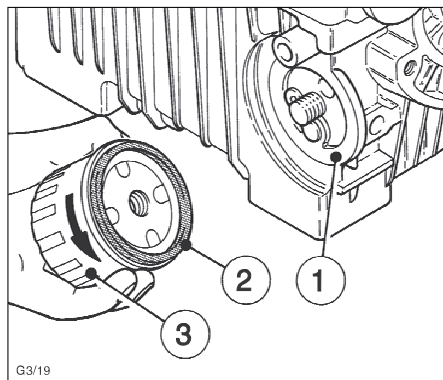

Fig. 20
- Add engine oil to the oil tank up to mark “6” and re-assemble the oilbath air cleaner (fig. 20, chap. 4.1.2.).